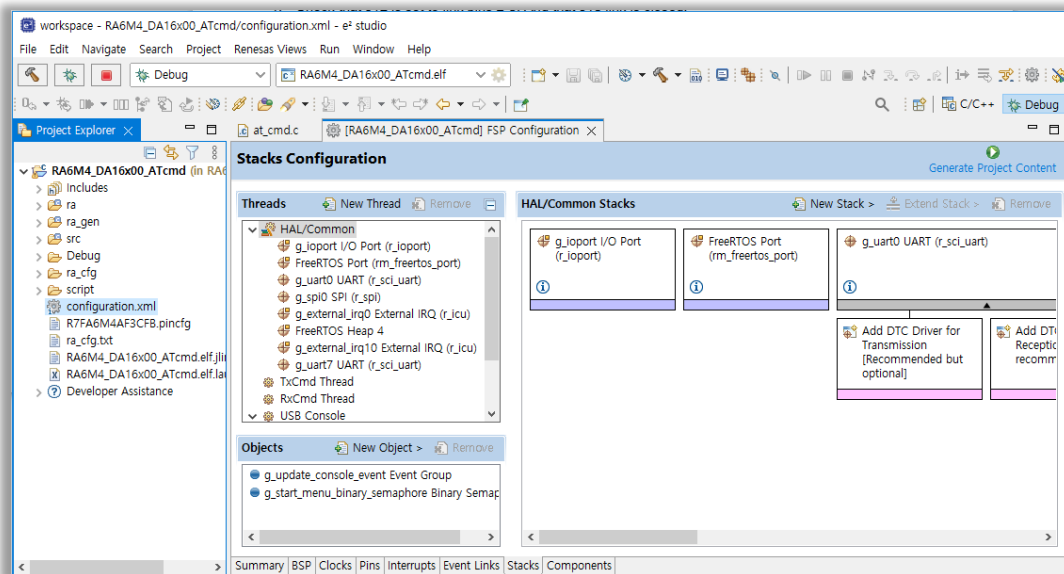

Figure 50: FSP Configuration
2. Select Configurations.xml to set FSP configuration of the RA6M4 MCU (see Figure 50).